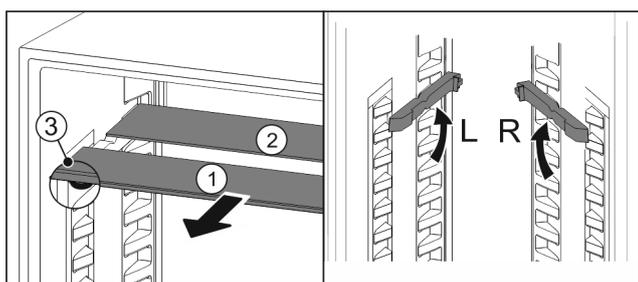

Fig. 25
- ▶ Pull the glass panels out Fig. 25 (1) from the front, one at a time.
- ▷ The glass panel Fig. 25 (1) and trim strip are at the front.
- ▷ The stops Fig. 25 (3) point down.